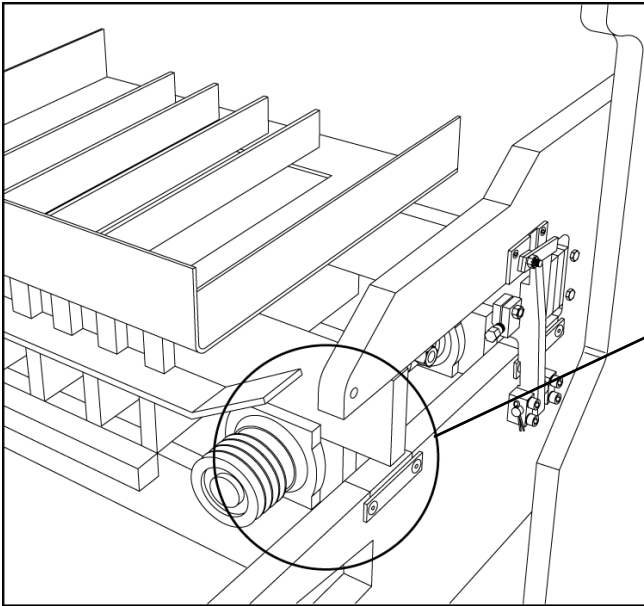

Figure 5.21 CENTERING THE MOLD
5.5.18 Check for centered position in machine. Mold is centered when mold side bars are approximately 1" [25.4mm] between vibrator bearing blocks and the inside of mold throat plates (see figures 5.21 and 5.22).